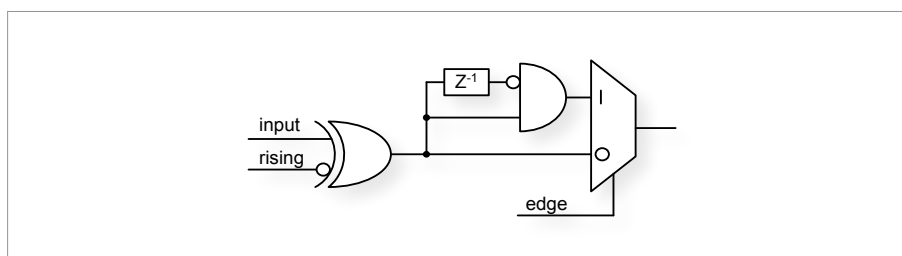

Figure 2.17: The digital inputs Trigger, GATE, BUS0, BUS1, BUS2 and BUS3 have simpler trigger units.
The configuration is set via the structures **trigger[8]** and **trigger[9]** in the **configuration structure**. The input circuit is shown in Figure 2.17 on page 15.
- the GATE input (Figure 2.17 on page 15)
- the Trigger input (Figure 2.17 on page 15)